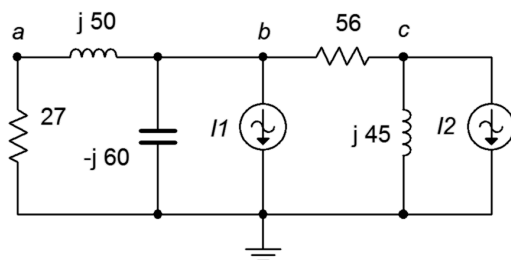

Figure 6.17
33. Given the circuit in Figure 6.17, determine v_c . $I_1 = 3\angle 0^\circ$, $I_2 = 2\angle 0^\circ$.
34. Use nodal analysis to find the current through the $j45\ \Omega$ inductor in the circuit of Figure 6.17. $I_1 = 2\angle 0^\circ$, $I_2 = 1.5\angle 60^\circ$.